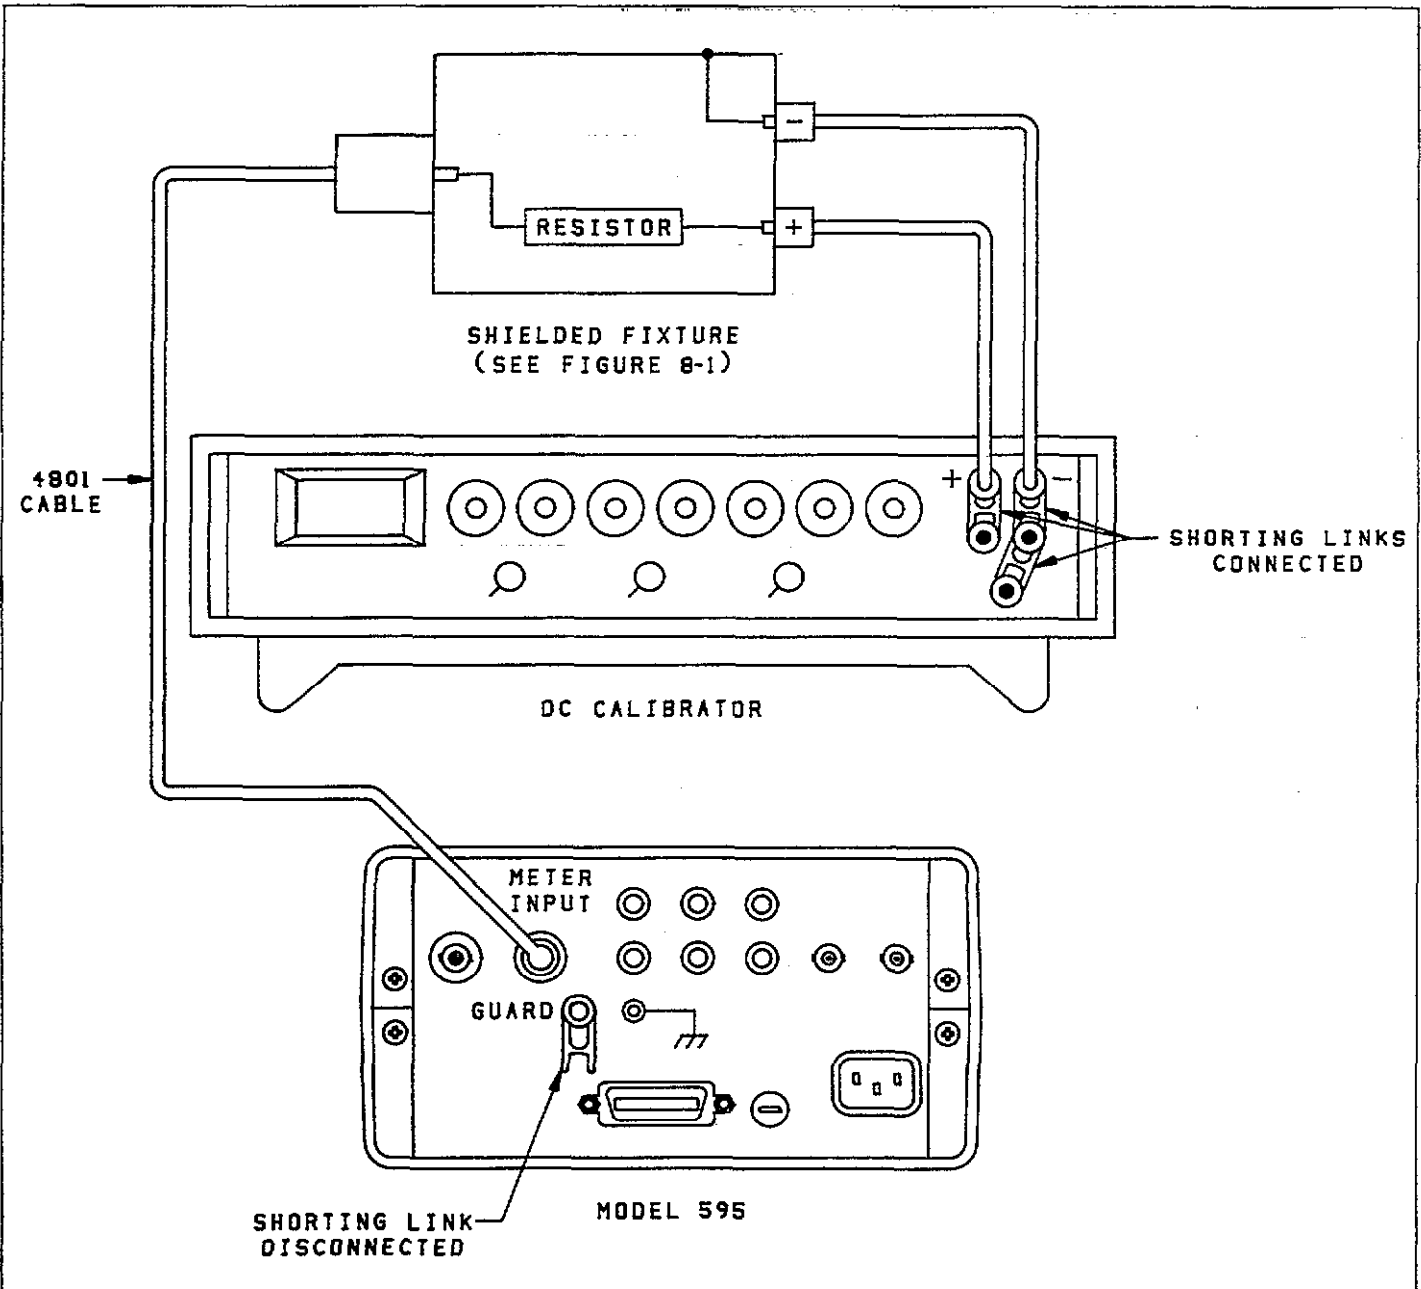

Figure 8-6. Current Calibration Setup (200pA and 20nA Ranges)
- Connect the DC calibrator and 10GΩ resistor to the Model 595, as shown in Figure 8-6. Note that the resistor is to be placed in a shielded enclosure, as shown on the diagram. (See Figure 8-1 for recommended shield).
5. Connect the current source to the Model 595 as shown in Figure 8-6. Note that the 10G $\Omega$  resistor must be installed in the test fixture.